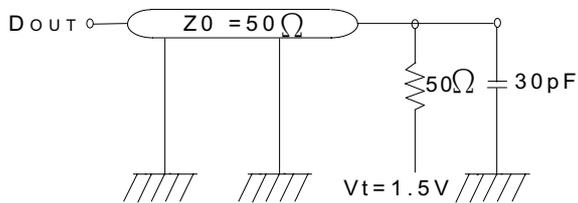

Fig.1 OUTPUT LOAD EQUIVALENT
| Output load | See Figures 1 and 2 |
5. Test conditions as specified with the output loading as shown in Fig. 1 unless otherwise noted.
13. Capacitance derating applies to capacitance different from the load capacitance shown in Fig. 1.